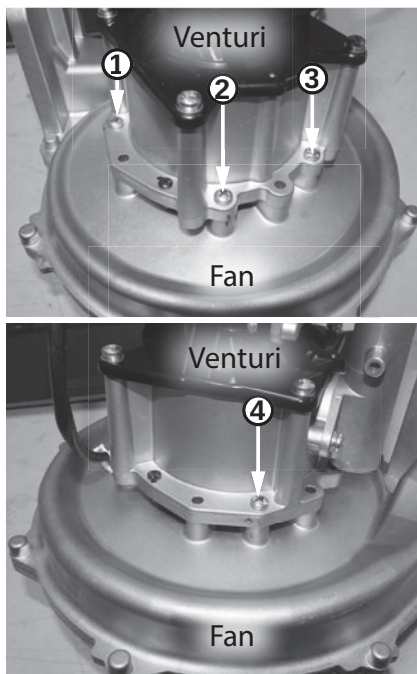

Figure 85 - Locate fan and venturi screws
- 12** Locate the large four screws securing the fan to the venturi. Figure 85 shows venturi facing upright for ease of removing screws.